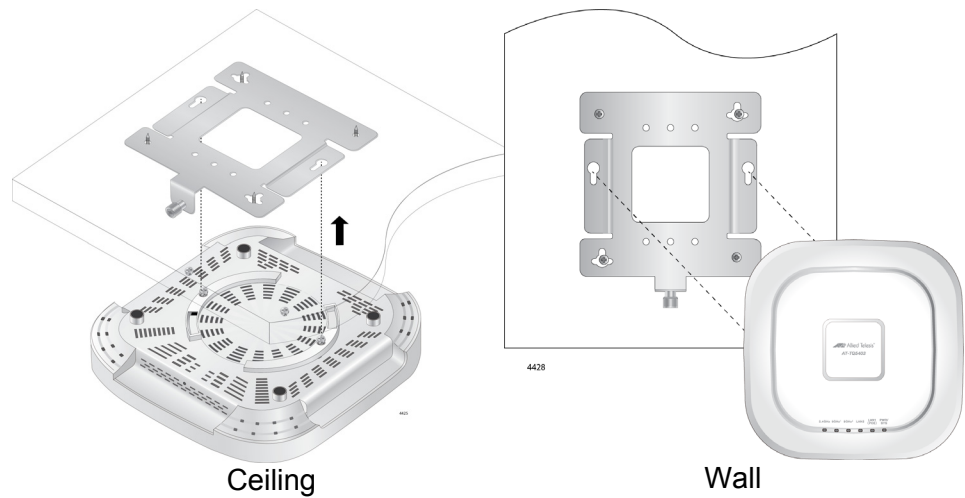

Figure 16. Align/Insert Access Point into Mounting Bracket
1. Align and insert the two access point chassis screws into the keyhole slots of the mounting bracket. Refer to Figure 16.